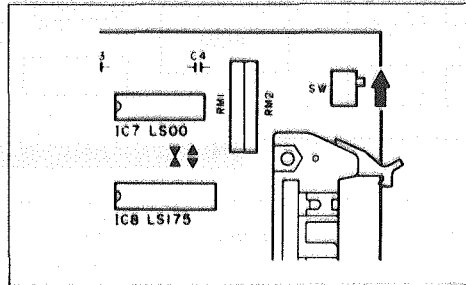

Fig. 9-4
- ① Set the switch of Roland DG corp.'s interface card "XY-APL" as shown in Fig. 9-4 below.